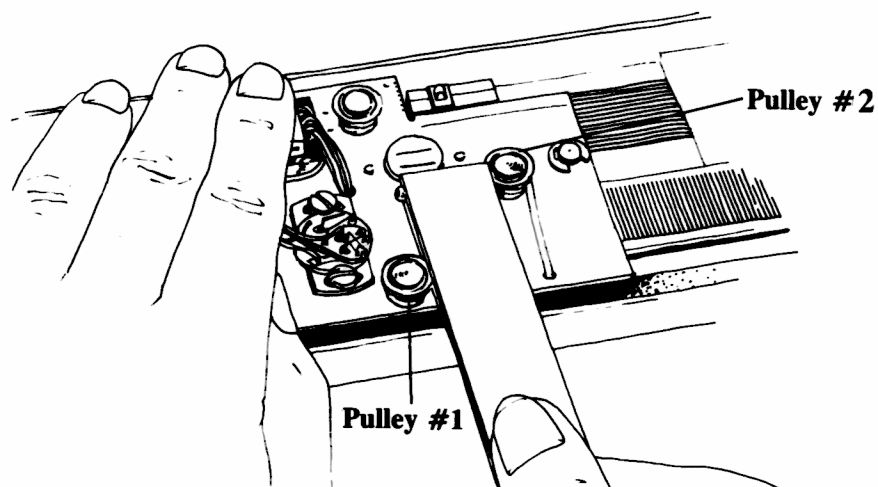

Figure 5. Inserting the Traverse Arm
- (1) TRAVERSE ARM. Moves left and right (X-axis) and front and back (Y-axis). (Note the Traverse Arm Stop at the end of the Arm away from the Cursor.)
- (2) CURSOR. This allows you to identify a specific point. Simply place the circle in the center of the Cursor on the point you wish to define.
- (3) SEND SWITCH. When you've defined the point you wish to describe, press the Send Switch down. To continuously send location signals to the Computer as you move the Cursor, hold the Switch down until two location signals are sent, then release. The Digitizer will continue sending location signals until you press the Send Switch again.
- (4) CARRIAGE. The Carriage moves back and forth and carries the Traverse Arm. (See Figure 5.)
- (5) BODY. This section contains the electronic components which identify the positions of the Cursor; it then sends those positions to the Computer.
- (6) COVER. You will need to remove the Cover when you mount the Traverse Arm onto the Carriage.
6. Place the groove on the left side of the Traverse Arm against Pulley #1 so that the Arm Stop (on the end of the Arm, on the left side) is just behind Pulley #1. (See Figure 5.)
7. Gently push the Traverse Arm along Pulley #1 until Pulley #2 is encountered. Then place Pulley #2 into the groove on the right side of the Arm so that it moves smoothly. (See Figure 5.)